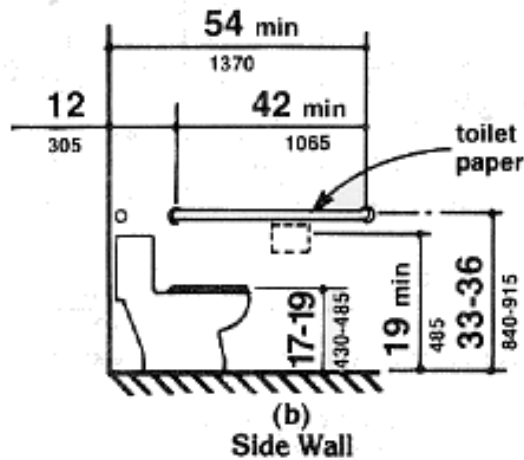

Figure 29 - Grab Bars at Water Closets
Fig. 29(a) Back Wall. A 36 inch (915 mm) minimum length grab bar is required behind the water closet mounted at a height between 33 and 36 inches (840-915 mm). The grab bar must extend a minimum of 12 inches (305) beyond the center of the water closet toward the side wall and a minimum of 24 inches (610 mm) toward the open side for either a left or right side approach.